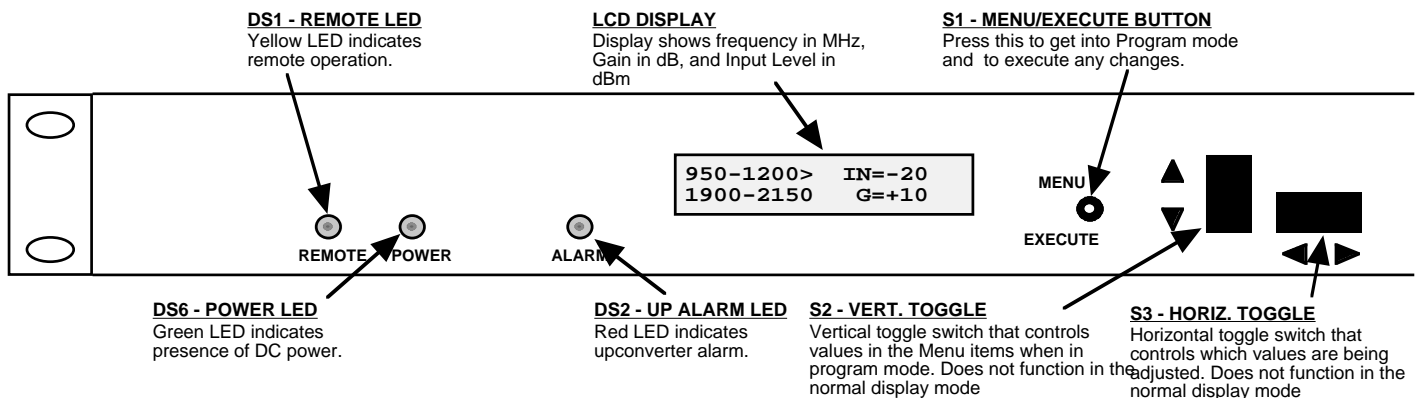

FIGURE 2.2 2083-1205 Front Panel Controls and Indicators
Figure 2.2 shows the front panel controls and indicators.
7. Be sure DS6 (green, DC Power) is on and DS2 (red, Alarm) is off (Figure 2.2).
Alarm indications appear on the LEDs (see Figure 2.2).